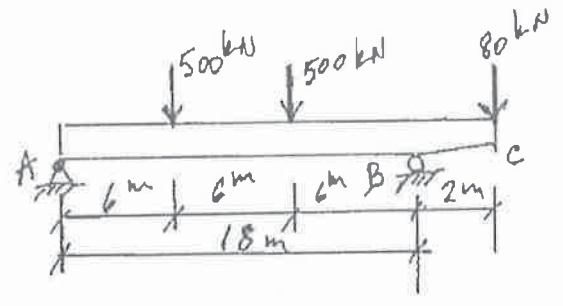

FIGURE 4
5. Figure 4 shows a prestressed concrete girder. Design the girder, allowing no tension in the cross-section. Show the profile of the prestressing steel.